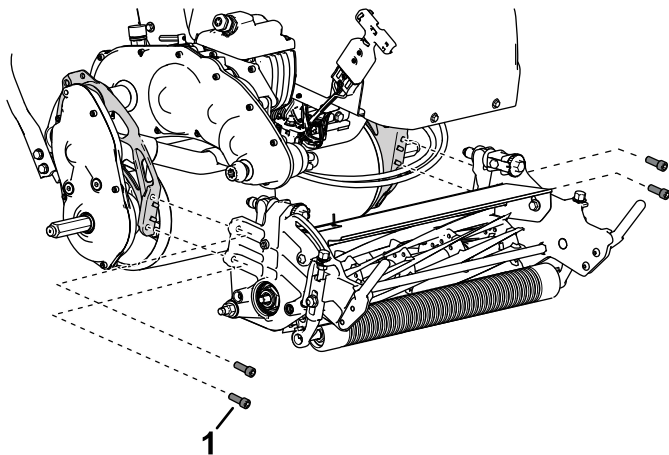

Figure 41
- Remove the socket-head screws that secure the cutting unit to the frame (Figure 41).